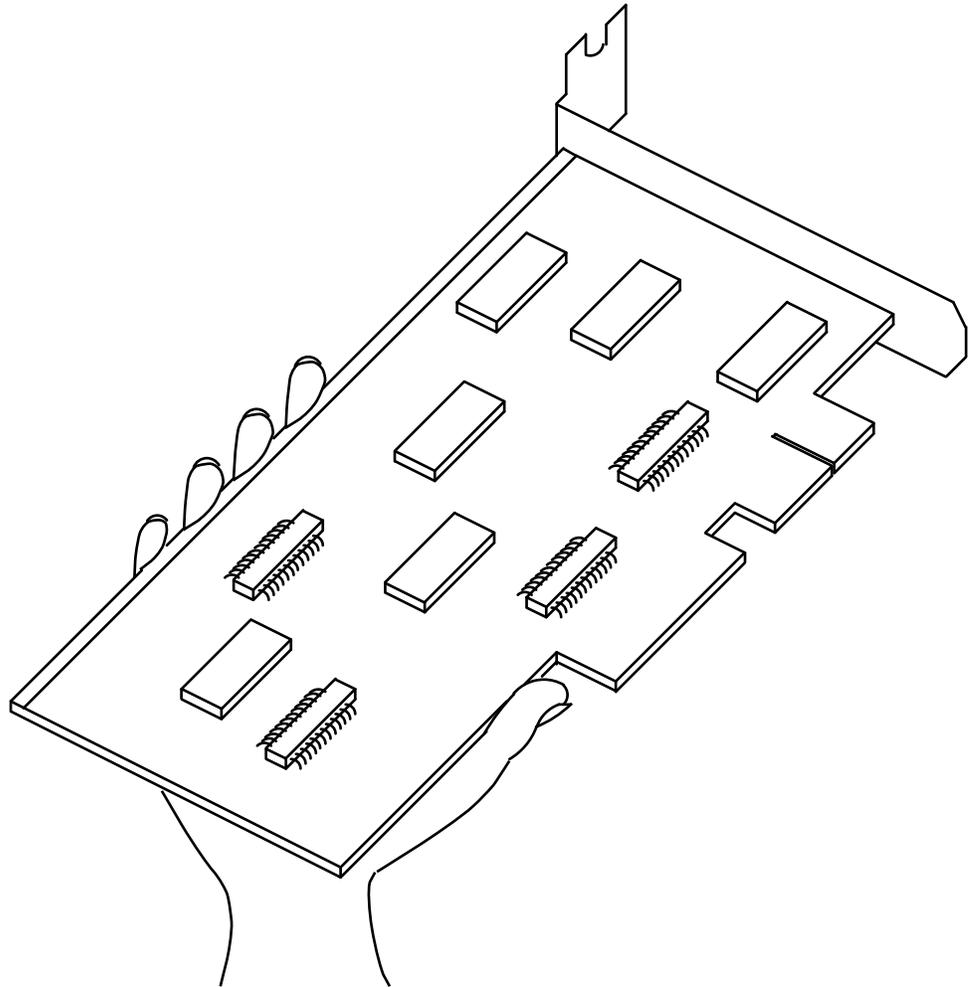

Figure 2-2. How to Hold a Large Circuit Card
- Hold a larger circuit card as shown in Figure 2-2.